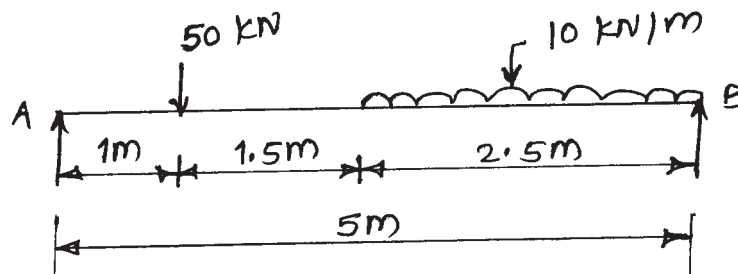

Fig. No. 3
- b) A simply supported beam of span 5 m carries a point load of 50 kN at 1 m from left end and a udl of 10 kN/m over right half span. Calculate the deflection at mid span and slope at left support. Take $E = 2 \times 10^3 \text{ kN/m}^2$, $I = 0.5 \times 10^{-4} \text{ m}^4$ use Macaulay's method Figure No. 3.